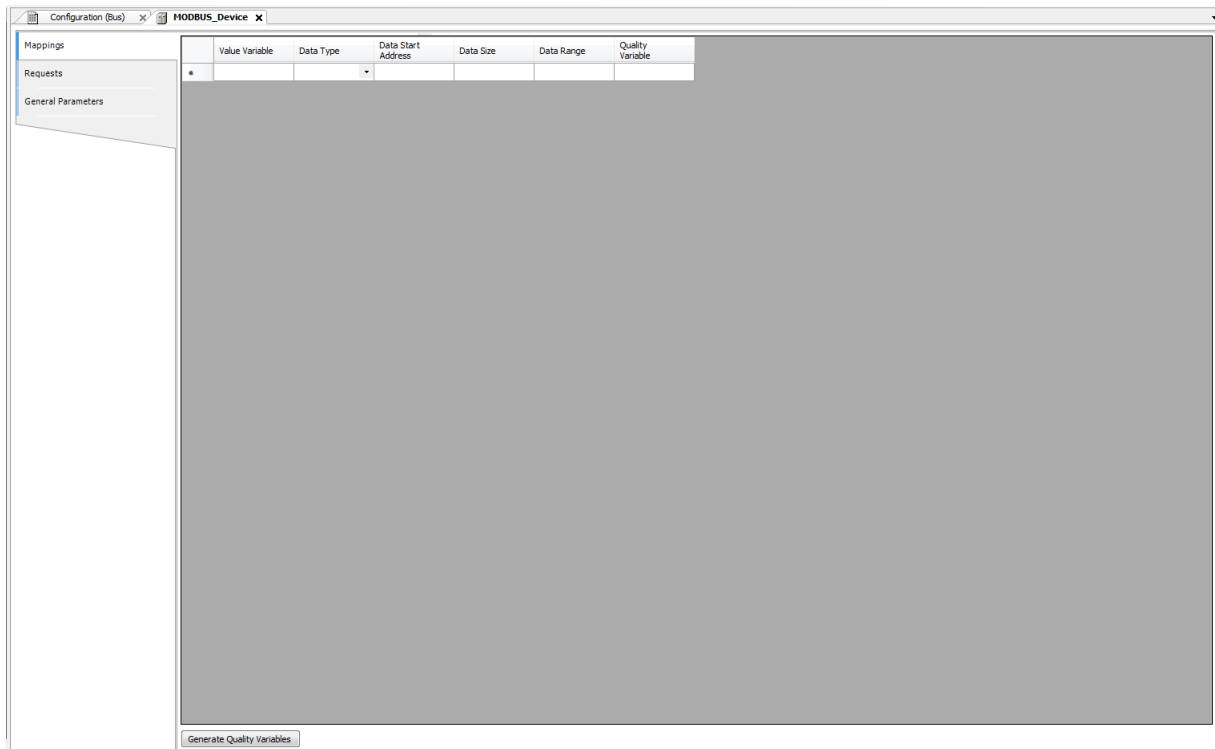

Figure 71: MODBUS Data Mappings Screen
- Add and configure the MODBUS mappings on Mappings tab as Figure 71, specifying the variable name, data type, and the data initial address, the data size and range are filled automatically.